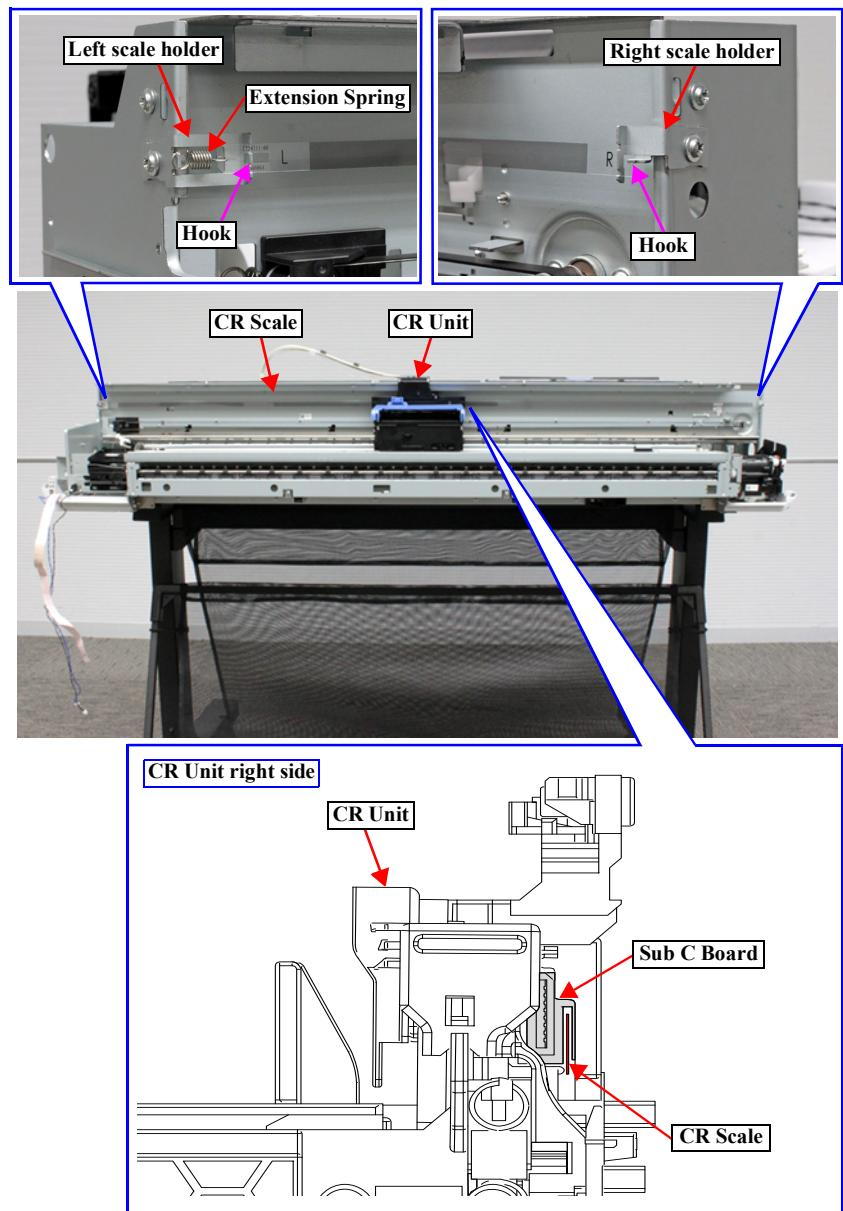

Figure 3-68. Removing the CR Scale
- Since the CR Scale has a specific orientation, install it in the direction shown in Figure3-68.
- Route the CR Scale through the detection point on the Sub C Board on the rear of the CR Unit when installing it. (Figure3-68)